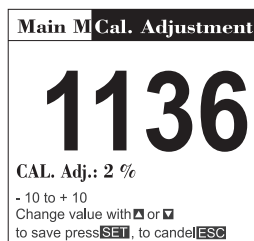

fig. 3.5.6b
- Select the „Cal. Adjustment“ menu item from the main menu (Fig. 3.5.6b)